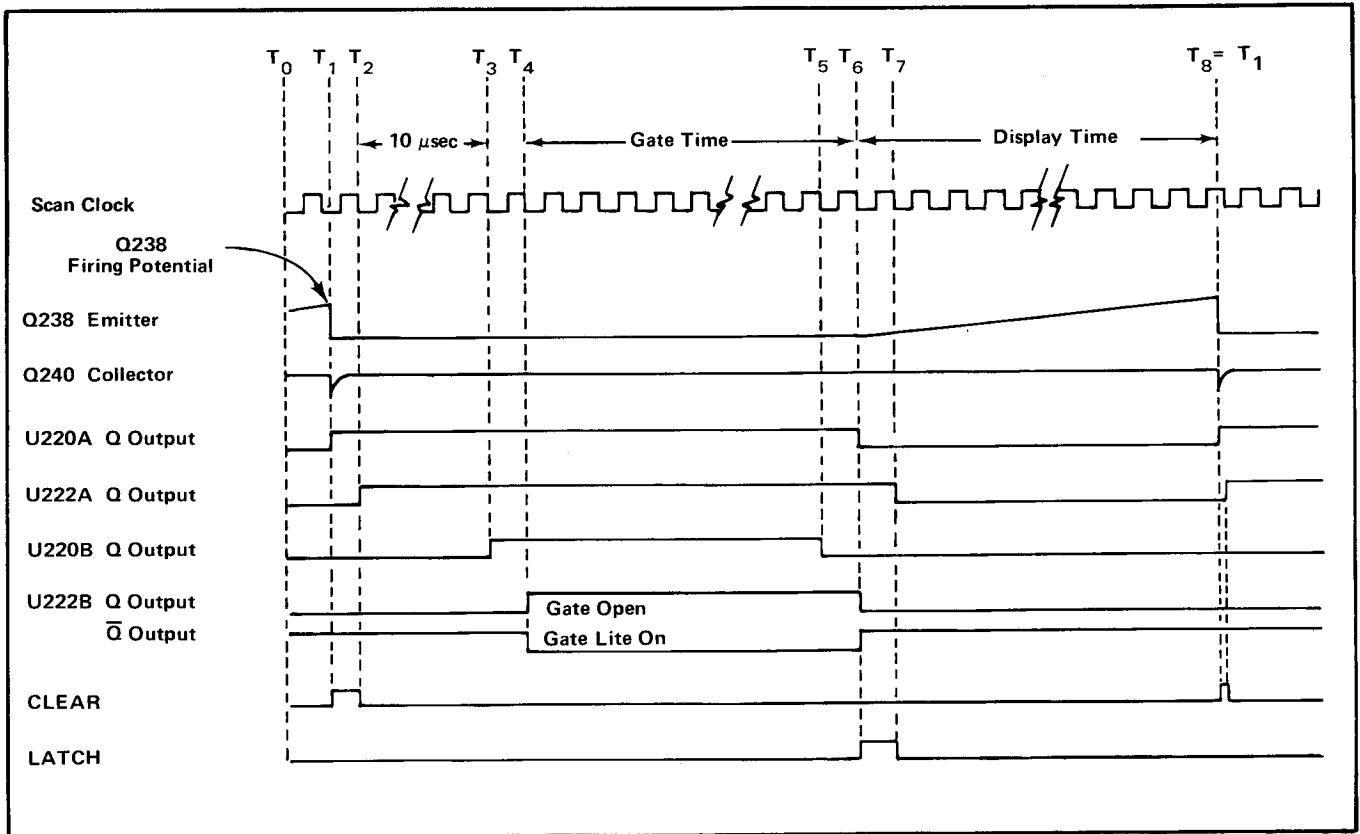

Fig. 2-2. Time Base generator normal gating mode ladder diagram.
Assume that the  $T_0$  conditions are as given in Fig. 2-2. The Q outputs of U220A, U222A, U222B, and U222B are all LO. Q230 is off and the emitter of Q238 rises as C235 charges. At  $T_1$ , Q238 reaches its firing potential and discharges the capacitor. This results in a short-duration LO pulse on the direct-set input (pin 2) of U220A, forcing its Q output HI and its  $\overline{Q}$  output LO. With two HI inputs on NAND gate U230A, its output goes LO and the output of NOR gate U230C goes HI, producing the CLEAR and  $\overline{\text{CLEAR}}$  control signals. The next HI-to-LO transition from the 1-MHz clock ( $T_2$ ) toggles U222A, causing its Q output to go HI and its  $\overline{Q}$  to go LO. With a LO applied to one of its inputs, U230A reverts to its original condition, terminating the CLEAR and  $\overline{\text{CLEAR}}$  pulses. The DDU's then start counting from their 0999999 reset condition.
At the end of a 10-microsecond delay (time for the DDU's to count the first digit, plus a propagation delay), a negative transition from the DDU's via the MEASUREMENT INTERVAL switch toggles U220B. This corresponds to  $T_3$  in Fig. 2-2. U220B's Q output goes HI and its  $\overline{Q}$  output goes LO. The next negative transition from the 1-MHz clock ( $T_4$ ) toggles U222B, causing its Q output to go HI (GATE open) and its  $\overline{Q}$  output to go LO (supplying current to the front-panel GATE indicator LED, CR225). The GATE signal is also applied to the base of Q230, saturating the transistor and preventing C235 from charging.
The GATE remains open (HI) for the time duration selected by the MEASUREMENT INTERVAL switch. At the end of this time, which corresponds to  $T_5$  in Fig. 2-2, another negative transition from the DDU's toggles U220B. U220B's Q output goes LO and its  $\overline{Q}$  output goes HI. The next negative transition from the 1-MHz clock ( $T_6$ ) toggles